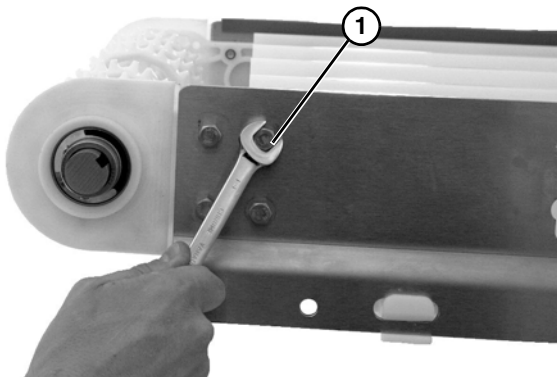

Figure 29
4. Remove the four head plate bolts (Figure 29, item 1) on both sides of the conveyor.